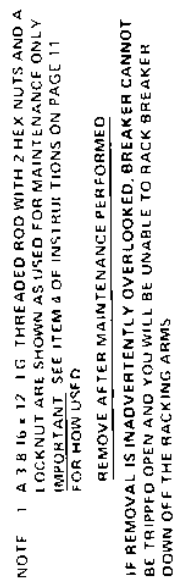

Figure 50—Truck Frame Assembly (Plan View)
3. With breaker in the open state, insert racking crank and rotate clockwise. This will drive the racking arms (8, Fig. 50) to the full vertical position. The breaker has now been elevated off the wheels and will be more stable when working on the breaker.
4. Close the breaker. When closed insert a 3/8"-16 x 12" long threaded rod through opening spring as shown for Note #1, Fig. 50. Screw the threaded rod into opening spring guide (34, Fig. 50) tightly. Run locknut up tight against opening spring holder (35, Fig. 50). **Breaker is now locked firmly in the closed position so that it cannot be accidentally tripped open.**